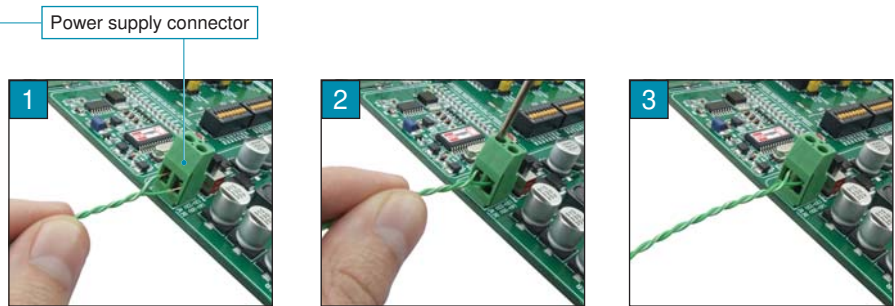

Figure 1-2: Connecting power supply source
Prior to connecting the development system to a PC, it is necessary to connect it to the power supply source. Follow the instructions given in figure 1-2 to establish this connection. You need two wires to be placed into the power supply connector and fixed by using screws. Refer to figure 1-2 (2).